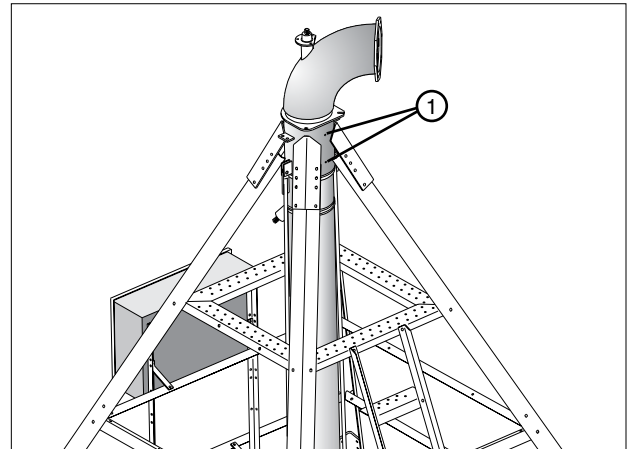

Figure 35-1 1. Grease Fitting
Lubricate two (2) pivot swivel grease fittings every 5-7 revolutions with water resistant lithium based grease to reduce the possibility of the pivot swivel binding. See figure 35-1.